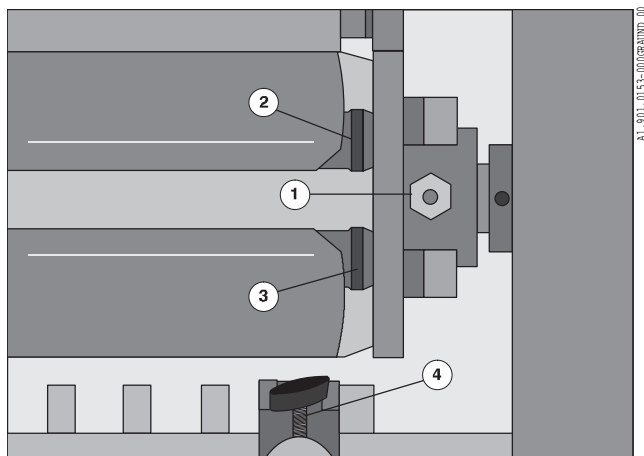

Fig. 25 Blanket clamp shafts
4. Move the forwarding rollers (Fig. 25/4) to D.S. and O.S., to prevent damage to the blanket.
5. Rotate the press with the crank handle until the blanket clamp shafts (Fig. 25/2 and 25/3) point towards the feeder.
6. Turn the hexagon-head screw (Fig. 25/1) with the socket wrench counterclockwise until the pinch rails in the clamp shaft become visible.